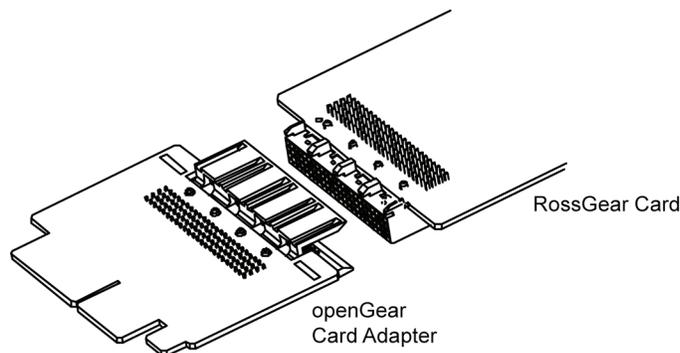

Figure 6. Positioning the Cards
- the cards are component-side down. The Ross and openGear logos will be face down on the surface. Refer to **Figure 6** for details.